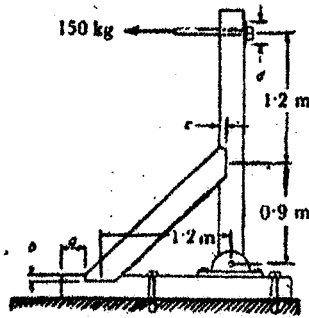

Fig.2 (a)
- 2(a) The frame shown in Fig.2 (a) is made up of $10 \text{ cm} \times 10 \text{ cm}$ square wood posts for which the allowable stress in shear parallel to the grain is $\tau_w = 7$